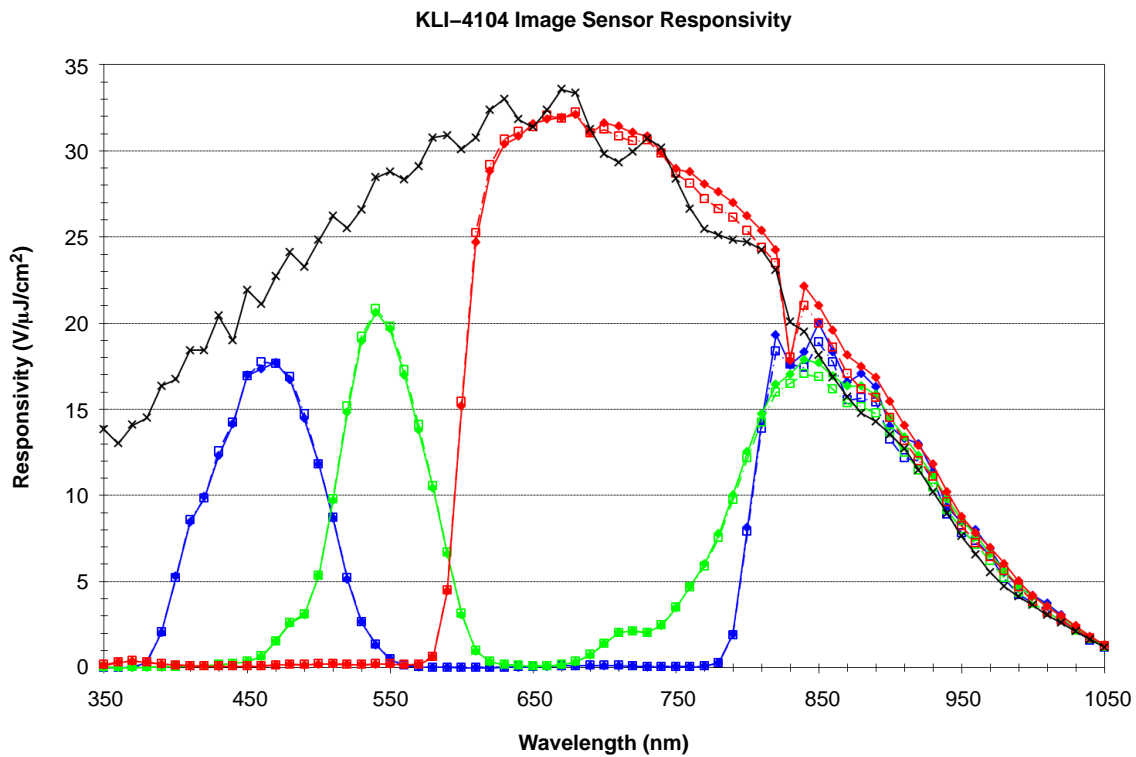

Figure 12. Typical Responsivity
2. With color filter. Values specified at filter peaks. 50% bandwidth = ± 30 nm. Color filter arrays become transparent after 710 nm. It is recommended that a suitable IR cut filter be used to maintain spectral balance and optimal MTF. See Figure 12.